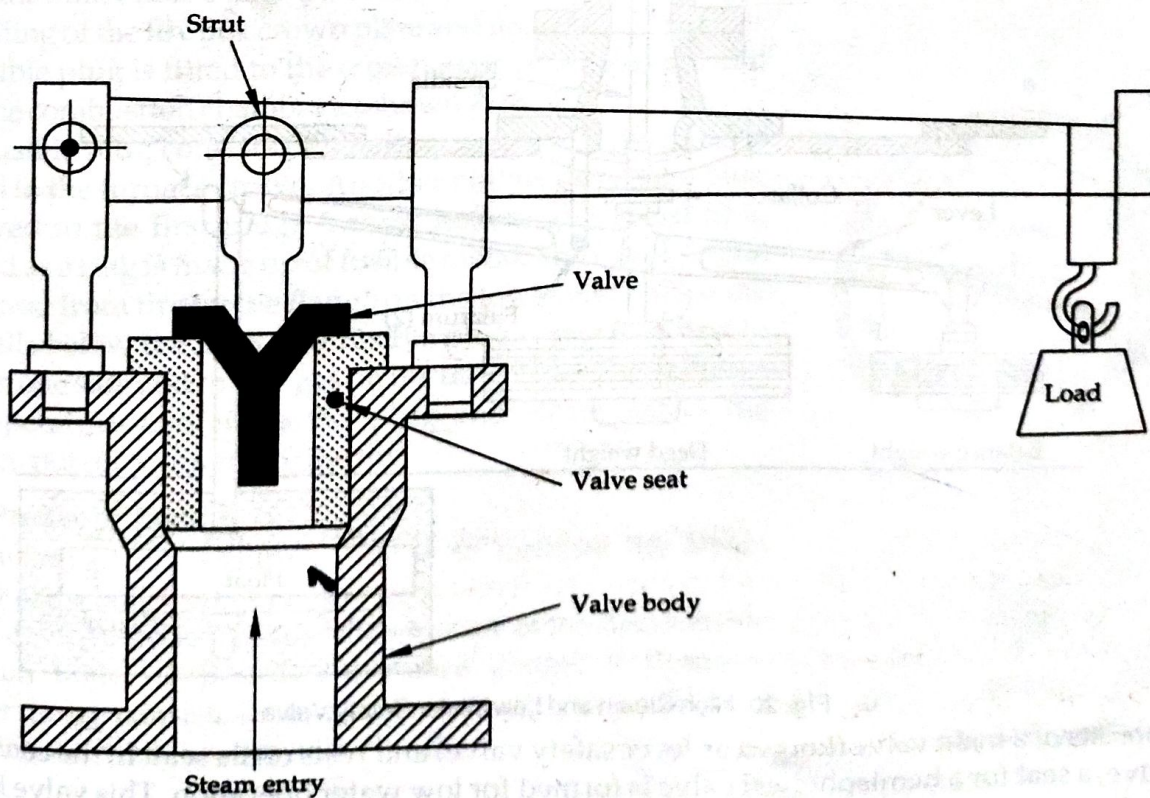

Fig. 19 Lever Safety Valve
3. Lever safety valve: A lever safety valve, as shown in Fig. 19, serves the purpose of maintaining required pressure inside the steam boiler by the way of lifting the valve from its seat and blow off the steam when pressure exceeds the design valve.